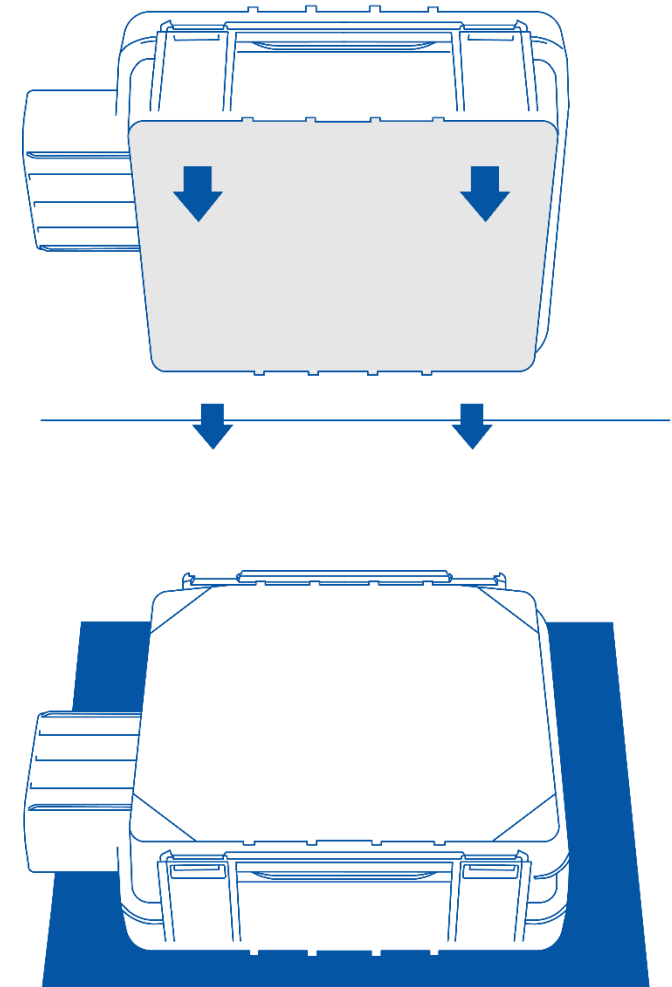

Figure 12 Device mounting
- You can use a double-sided tape to attach the device on the battery as well as a fastening straps to mount it anywhere next to the battery. Please make sure, that the GNSS antenna and LEDs indicators are facing up Figure 12.